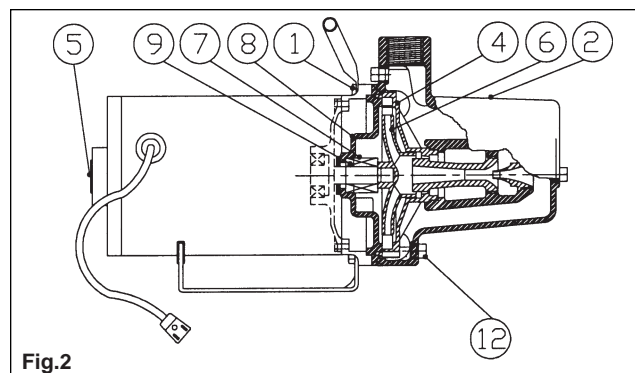

Fig.2
- c) **Replacing Mechanical Seal: (See Fig. 2)**
- 3) Remove the drain (12) and prime plugs to allow the pump to drain.
- 4) Remove the 4 bolts (1) and remove casing (2).
- 5) Pry the diffuser (4) out of the casing using 2 slotted screwdrivers for leverage.
- 6) Remove cap (5) and insert a screwdriver to prevent the shaft from turning while unscrewing the impeller (6)(GE motors). For A.O. Smith motors, remove rear cover and hold the shaft using a flat wrench inserted from the side, through the opening in the end of the housing. If the impeller cannot be turned by hand, insert a flat object into the impeller vane.
- 7) Slip the rotating seal (7) off the shaft and remove the seal plate (8).
- 8) Remove the ceramic seal seat (9) from the seal plate.